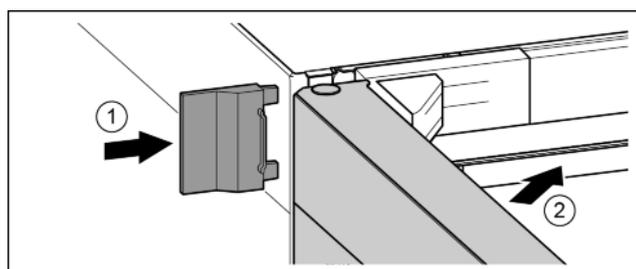

Fig. 24
▶ Push the external cover on. Fig. 24 (1)
▶ Close the upper door. Fig. 24 (2)